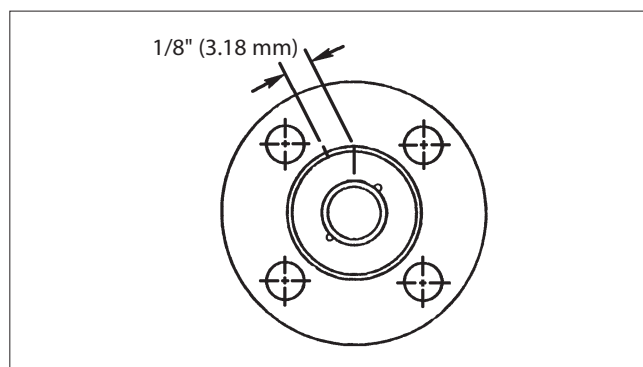
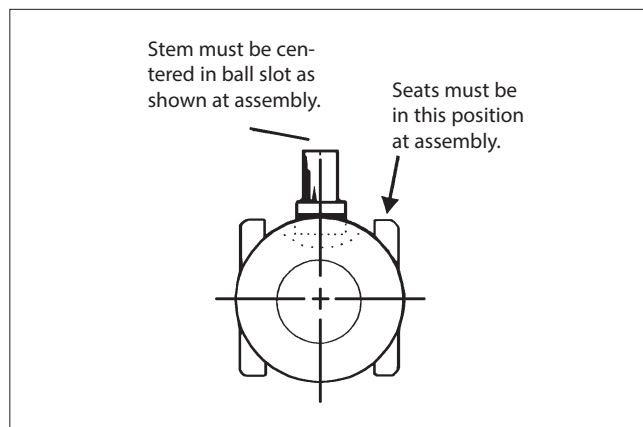

Figure 2.
Figure 3.
9. Place the valve in a vertical position, insert end up, on a clean surface such as a folded rag or a piece of cardboard. Place the spring (36) in the hole in the bottom of the stem (3). Insert the ball (5) rotating it onto the stem (3) in the closed position, being careful not to dislodge the spring from the stem. If necessary, turn the stem blade to align with the ball slot. Make certain that the stem blade is in the middle of the ball slot, i.e., equal distance from the ends of the slot. Rotate the ball if necessary (see Figure 3).
10. Place the second seat (6) into the insert (2) with the proper surface adjacent to the ball.
11. Insert the body gasket (12) into the body, and gently press it into the groove.
12. Apply a lubricant compatible with the flowing medium to the insert threads and screw the insert (2) into the body. The tightening of the insert should be done using the insert field wrench. The insert must be tightened the same number of turns as in Step 5, insuring that the marks are no more than 1/8" (3.2 mm) apart, as shown in (Figure 2).